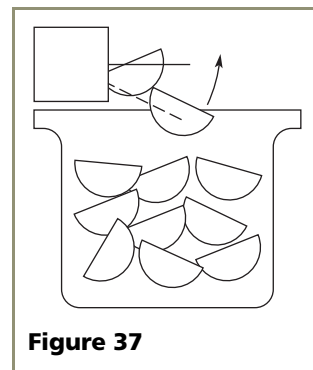

Figure 37
3. The ice maker will continue to produce until the bin is full. You may interrupt production by raising the bin arm into an upright and locked position (see **Figure 37**). While the bin arm is locked, the unit will maintain temperature for ice storage.